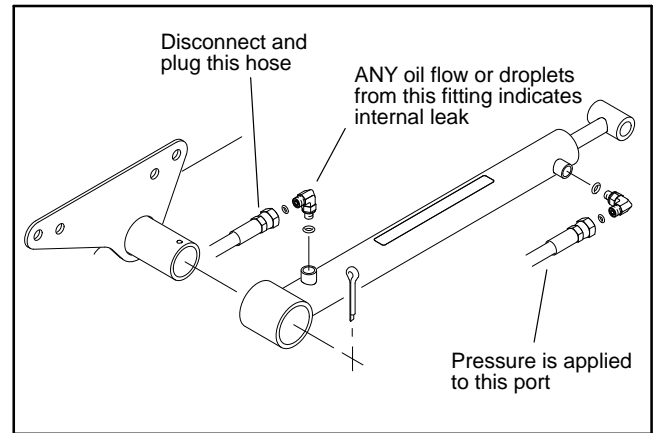

Figure 21
4. Disconnect hydraulic hose from base end of lift cylinder that is to be tested and install a steel plug with O-ring seal in the hose (Fig. 21). Clean any remaining oil from cylinder port.